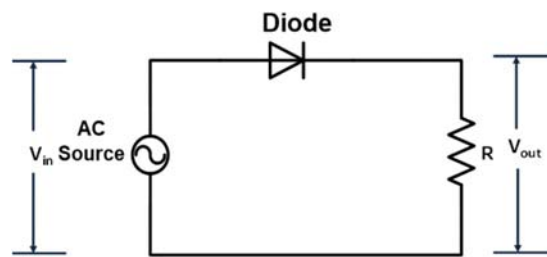
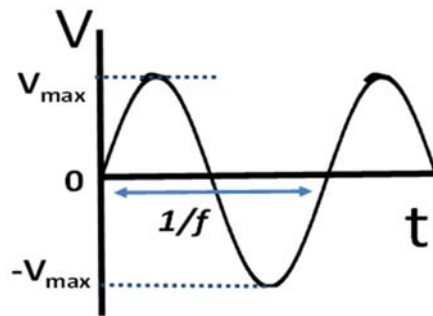

Fig. 1: Half wave rectifier circuit without a capacitor filter
Fig. 3: Input sinusoidal waveform applied to the half-wave rectifier circuit
**Operation:** Consider the circuit shown in fig. 1. An input signal as shown in fig. 3 is applied. During the positive half of the input sinusoidal signal, the diode is forward biased and is conducting. The diode has a very low resistance in the forward bias state. The output, taken across the resistor ‘R’ in fig. 1, almost follows the input after a drop of around 0.
2. Apply a sinusoidal signal of a given frequency  $f$  across  $V_{in}$  and observe the waveforms across  $V_{out}$  in fig. 1. Observe the input waveform using channel 1 of the oscilloscope and output of the circuit using channel 2 of the oscilloscope.